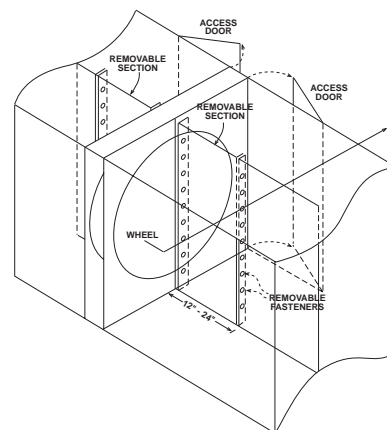

Figure 2
4. It is good practice to include means for accessing the ECW cassette on all sides. This can be done either using 4 access doors, or 2 access doors with provisions for a removable section of front and back duct. NovelAire recommends including a removable plenum section(see Figure 2) in the front and back of the cassette for expedient repair and/or wheel removal. Alternatively, the cassettes can be installed on a slide out track for easy access.